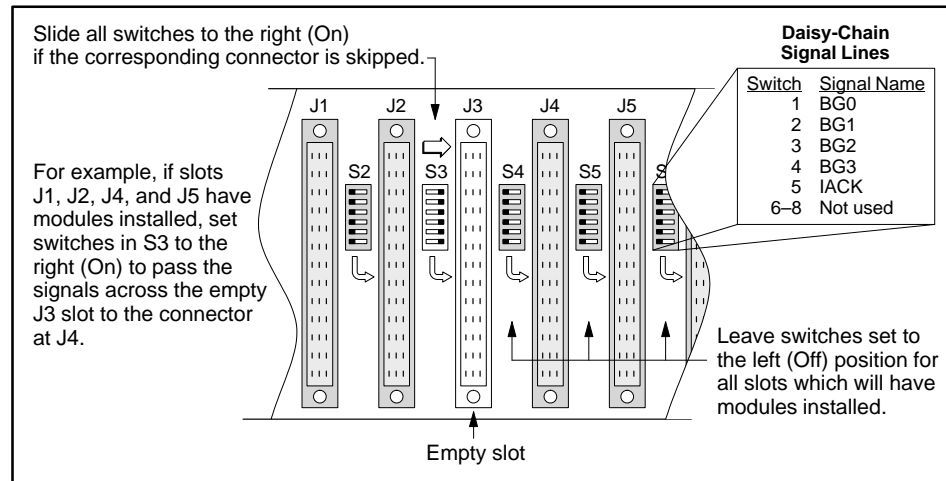

Figure 4-20 Setting Daisy-Chain Signal Dipswitches on VMEbus Backplane
- Do not leave any open slots between cards. Any open slots must be on the far right side of the base, unless you set the dipswitches on the backplane to bypass the empty slots. See Figure 4-20.